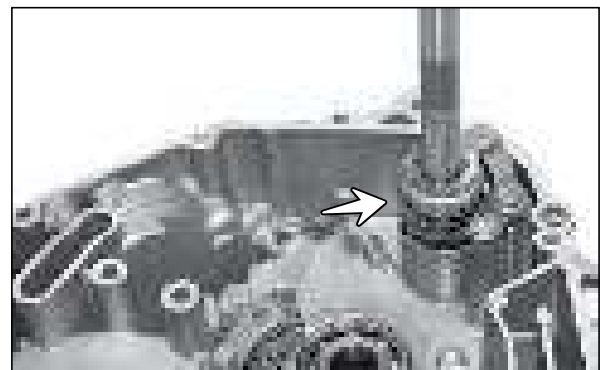

Fig. 3.194
- Assemble spring kick starter and starter kick in shaft kick starter assembly. (Fig. 3.194)